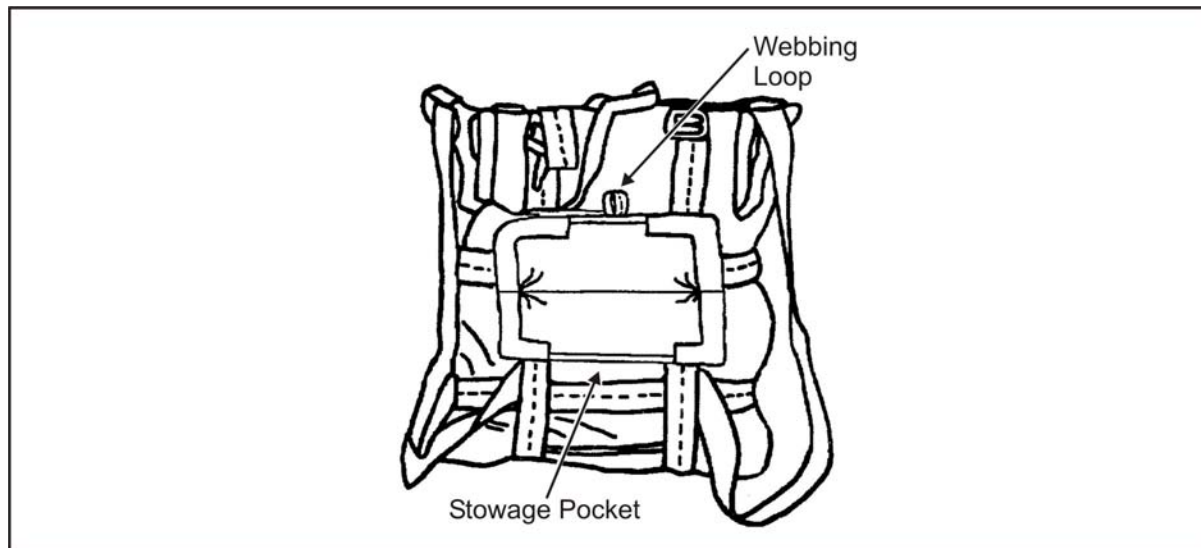

Figure 5-26. Stowage Pocket With 8-Footer Lowering Line
- Attaches the lowering line through the sewn webbing loop on the backside of the SARPELS carrier at the top of the stowage pocket (Figure 5-26, page 5-24).